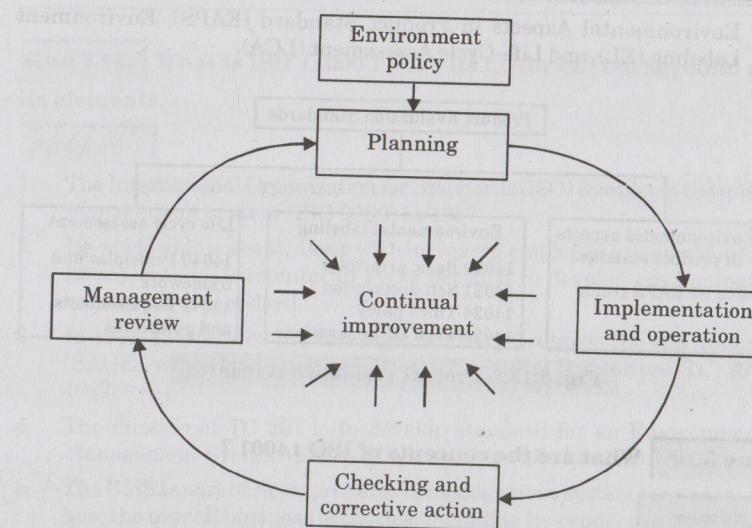

Fig. 5.16.1. Environmental management system model.
5. The basic approach to EMS is shown in Fig. 5.16.1.